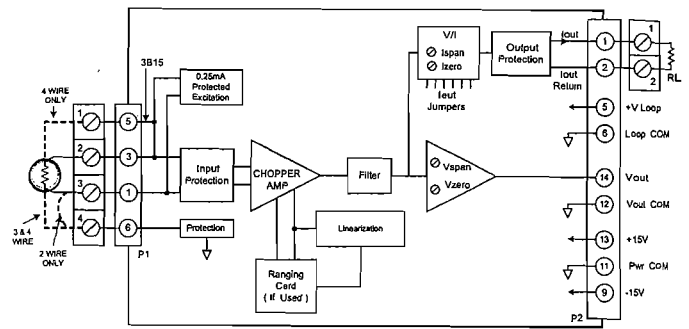

Figure 2.1.4.1 3B14 and 3B15 Functional Block Diagram
Figure 2.1.4.1 shows a functional diagram for models 3B14 and 3B15. A sensor excitation current of .25mA is provided by each module. Input protection of up to 130V for the input and excitation circuitry is provided. The signal is then amplified, linearized, and filtered to give the high level voltage output. Chopper based amplification is used to assure low drift and excellent long term stability. Both the voltage and current outputs can be independently adjusted over a  $\pm 5\%$  span range for zero and span with the front panel accessible potentiometers. The current output, which has 130V output protection, interfaces with user equipment through screw terminal connections.
1. Connect model 3B14 (3B15) as shown in Figure 2.1.4.1. with  $R_L = 250\Omega$ . Substitute a resistance standard for the RTD.
Figure 2.1.4.2 graphically shows the RTD values needed for ranging the 3B14 and 3B15 while Figure 2.1.4.3 depicts the mounting locations of the ranging resistors.